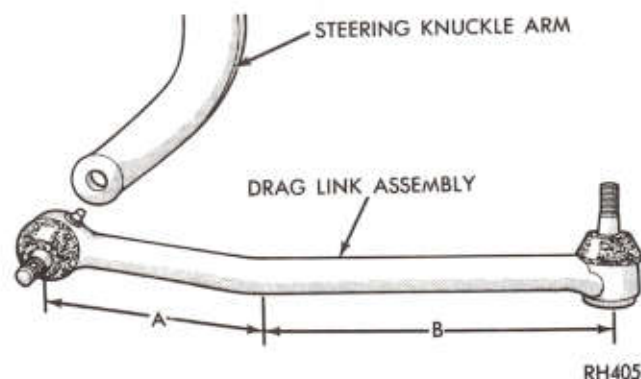

Fig. 24—Proper Installation of Drag Link Assembly
(1) Position drag link to steering knuckle arm (Fig. 24) so that from production bend in arm to steering knuckle arm is the short distance marked as "A" and long distance from bend marked "B" is to be installed to steering gear arm.